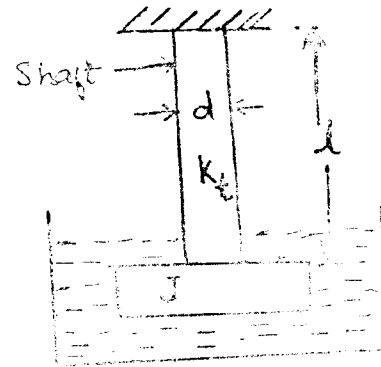

Fig. Q 2(b)
- b. For the torsional pendulum shown in Fig. Q 2(b), if the observed amplitudes on the same side of the neutral axis for successive cycles are found to decay 50% of the initial value, determine –